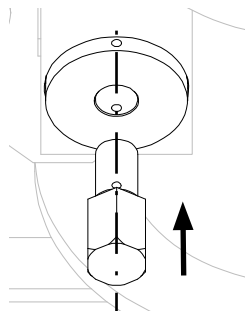

Fig. 16
3. Insert Driving Bolts so that the holes of the Driving Bolts are flush with the holes of the Centering Disk. (Fig. 16)